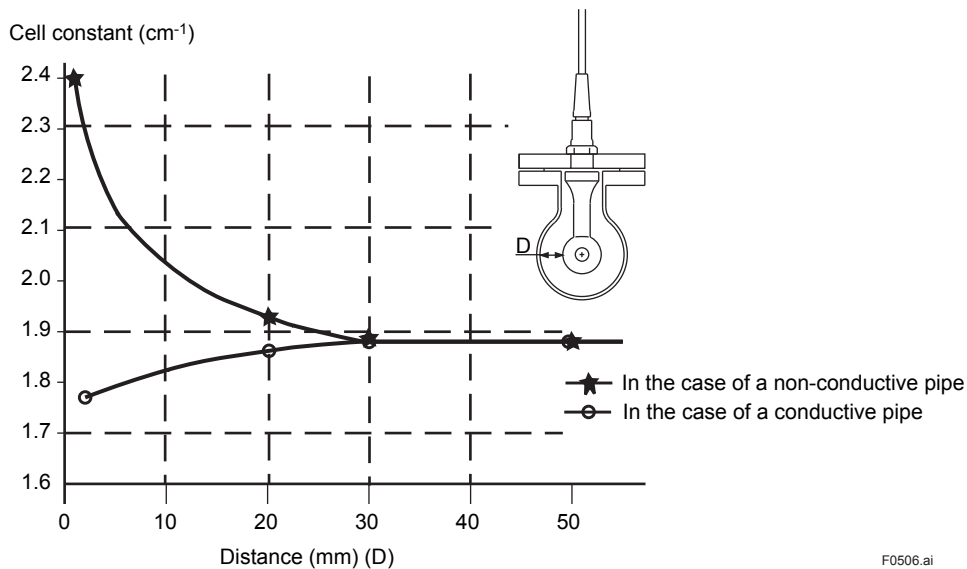

Figure 5.6 Cell Constant when Installing on Pipe (reference value)
- If the sensor is to be installed in a pipe (conductive or non-conductive), mount it in the direction as shown in Figure 5.6 and use the graph to determine the cell factor to be programmed in the converter (transmitter).